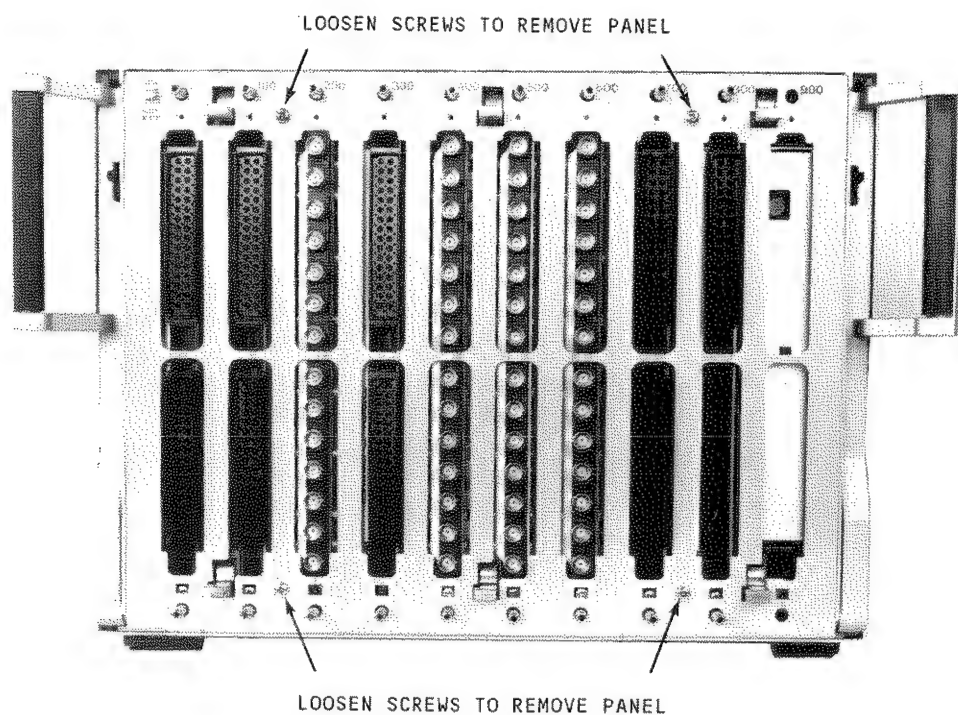

Figure 10. Removing the User Side Panel.
Refer to Figures 10 and 11 to install plug-in modules.
2. Remove the user side panel by loosening the upper and lower screws between slots 100 and 200 and slots 700 and 800. See Figure 10.